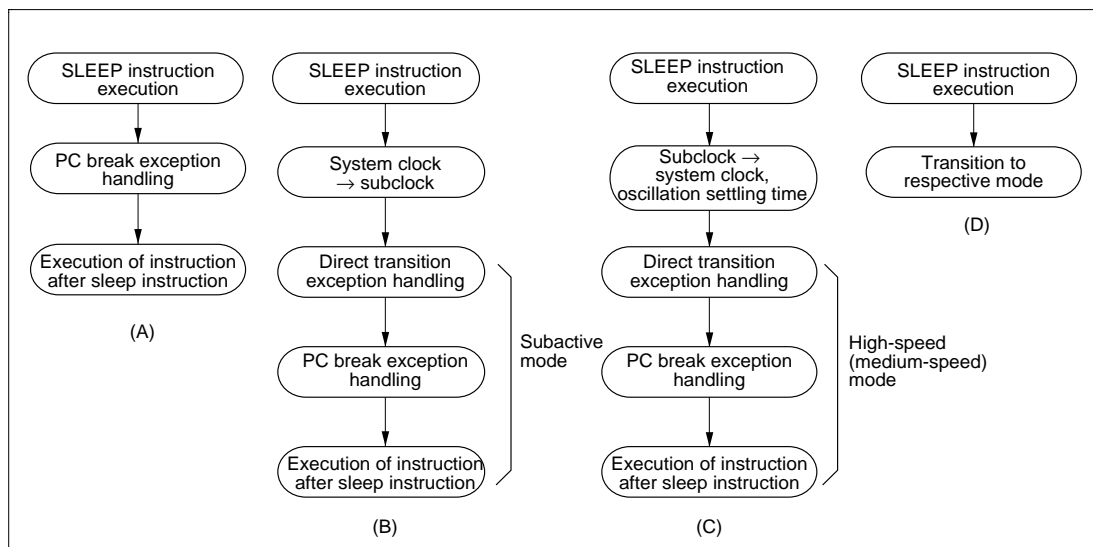

Figure 6-2 Operation in Power-Down Mode Transitions
- (1) When the SLEEP instruction causes a transition from high-speed (medium-speed) mode to sleep mode, or from subactive mode to subsleep mode:
After execution of the SLEEP instruction, a transition is not made to sleep mode or subsleep mode, and PC break interrupt handling is executed. After execution of PC break interrupt handling, the instruction at the address after the SLEEP instruction is executed (figure 6-2 (A)).
- (2) When the SLEEP instruction causes a transition from high-speed (medium-speed) mode to subactive mode:
After execution of the SLEEP instruction, a transition is made to subactive mode via direct transition exception handling. After the transition, PC break interrupt handling is executed, then the instruction at the address after the SLEEP instruction is executed (figure 6-2 (B)).
- (3) When the SLEEP instruction causes a transition from subactive mode to high-speed (medium-speed) mode:
After execution of the SLEEP instruction, and following the clock oscillation settling time, a transition is made to high-speed (medium-speed) mode via direct transition exception handling. After the transition, PC break interrupt handling is executed, then the instruction at the address after the SLEEP instruction is executed (figure 6-2 (C)).
- (4) When the SLEEP instruction causes a transition to software standby mode or watch mode:
After execution of the SLEEP instruction, a transition is made to the respective mode, and PC break interrupt handling is not executed. However, the CMFA or CMFB flag is set (figure 6-2 (D)).